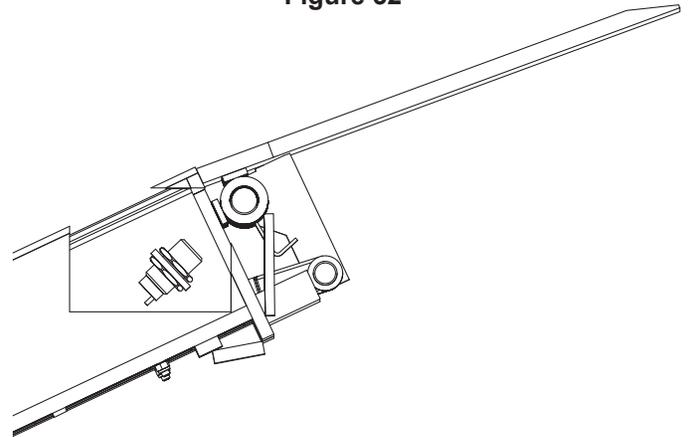
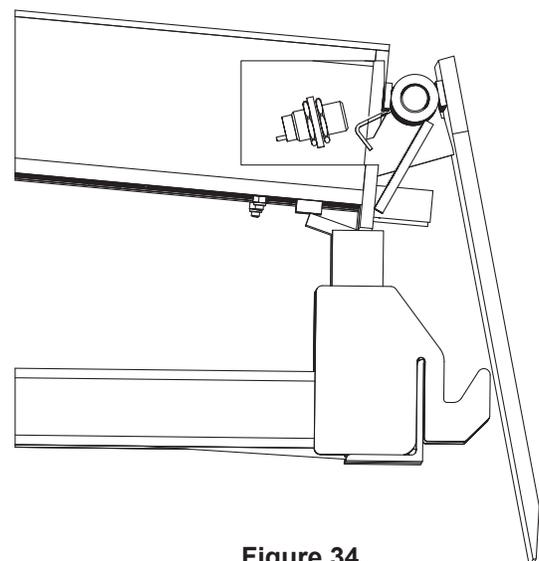

Figure 33
Figure 34
**Not Stored** - Lip plate is outside of lip keepers (**D**) and or not pendant (not completely folded). Common positions include the Raised Position (**Figure 33**) and Below Dock Position (**Figure 34**). In any condition where the lip is not completely folded, the sensor should not read the target.